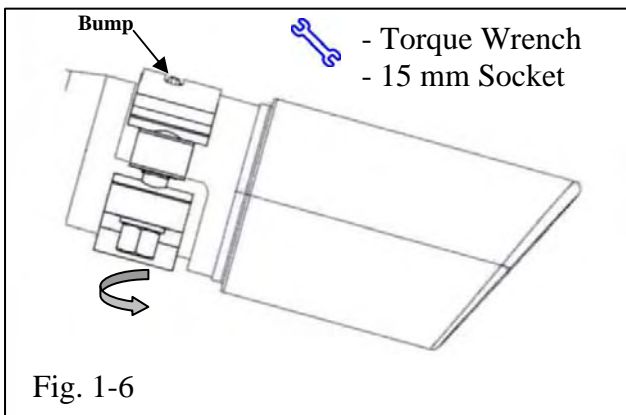

Fig. 1-6
- (e) Align the exhaust tip so that the oval is horizontal to the rear bumper fascia. (Fig.1-6)
**NOTE: Make sure the slot on the clamp is positioned over the bump on the exhaust tip before final torque. (Fig. 1-6)**